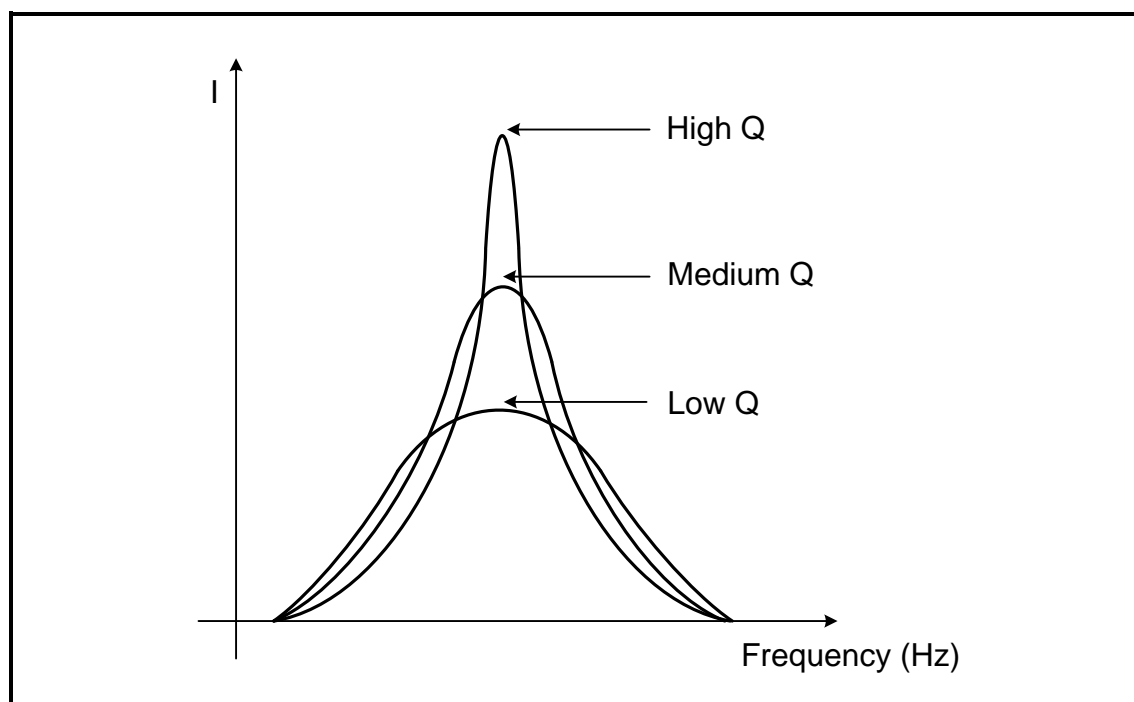

FIGURE 2.6: FREQUENCY RESPONSE CURVE
2.6 Refer to FIGURE 2.6 below and answer the questions that follow.
- 2.6.4 Describe what happens to the selectivity and band pass frequencies as the Q-factor in FIGURE 2.6 is lowered. (2)